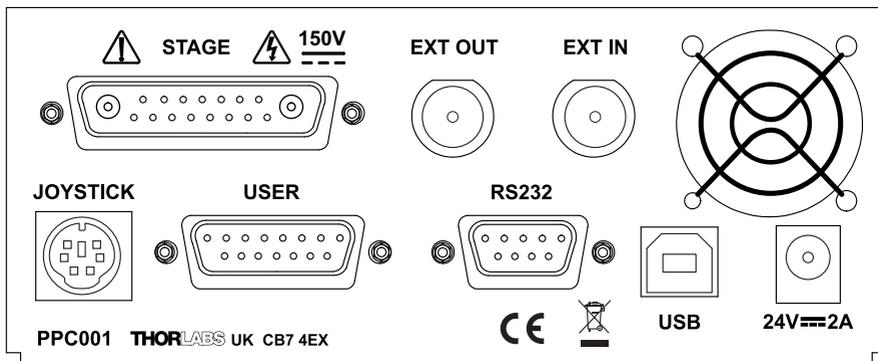

Fig. 3.5 Rear panel connections
- 2) Connect the stage to the Controller unit - see Fig. 3.5